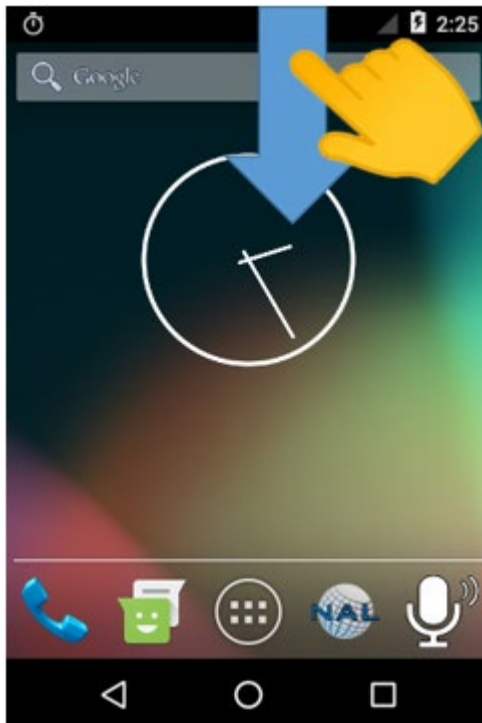

Figure 77: Swipe Down
3. Swipe **Down** from the top of the SHOUT sp screen to display USB for charging notification (see **Figure 77**).